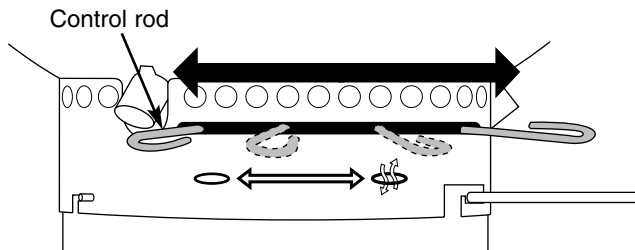

Figure 1
- 2) Clear any ashes from the bowl by moving the control rod side to side. Figure 1.